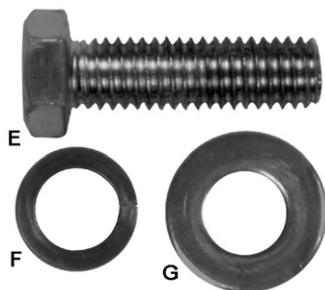

Figure 11
2. Remove the remaining hex cap screw, lock washer, and flat washer in the table edge. Refer to Figure 11.
1. Attach the left extension wing (A) to the table (B) with three each hex cap screws (E), lock washers (F) and flat washers (G). Snug so the extension wing can still be manually adjusted but do not tighten.
2. Adjust the extension wing horizontally so the front edge is flush with the front edge of the saw table (C). Then, using the straightedge as reference, adjust vertically so the tops of the extension wing and saw table are flush.
4. Remove the mounting hardware (Fig. 11) from the table on the right side; then attach the right extension wing in the same manner.